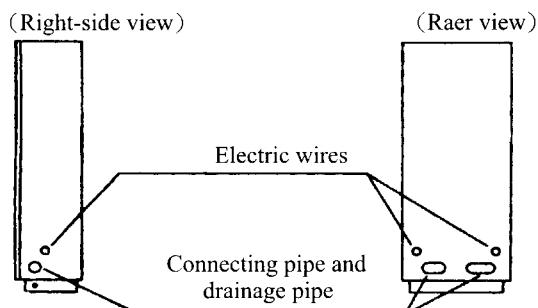

Fig. 98
- Choose one of the four hole-positions (2 on the side and 2 on the rear) according to installation place (see Fig. 98), break it through and fit in passing hole cover for the passing of connecting pipe, drainage pipe and wires.